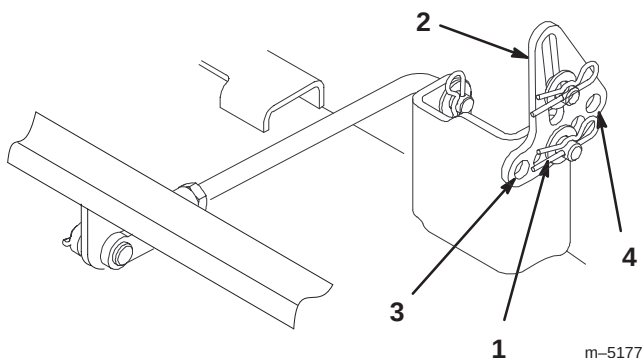

Figure 38
5. Remove the hairpin cotter and washer from the leveling bracket (Fig. 38). To level the blade(s), reposition the leveling bracket(s) in a different hole
and install the washer and hairpin cotter. (Fig. 38). A front hole lowers the blade height and a rear hole raises its height. Adjust both sides as required.